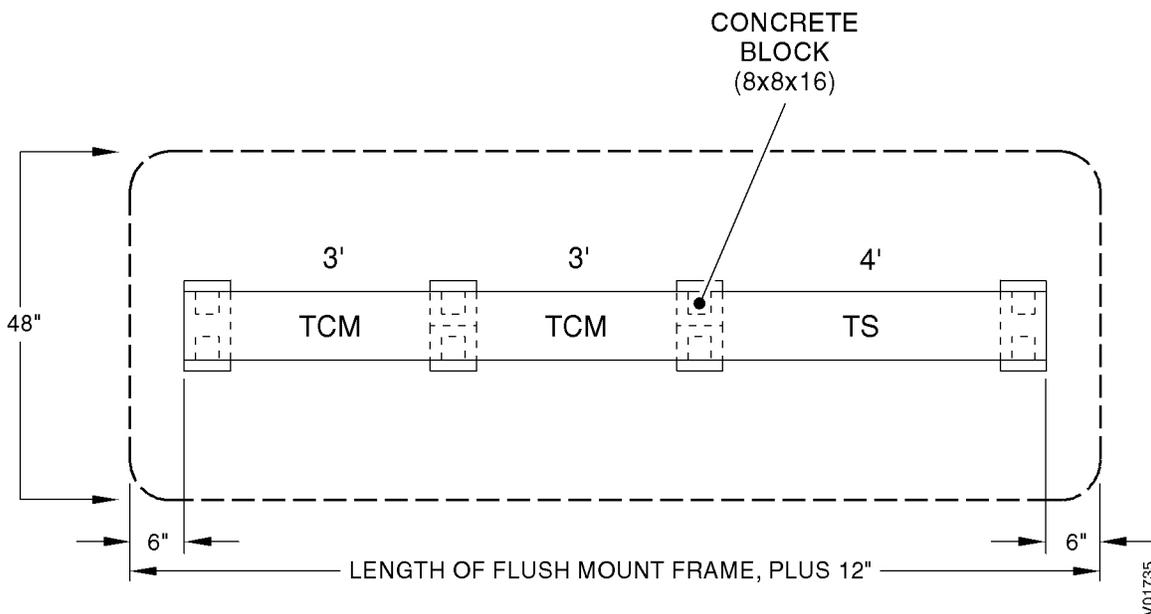
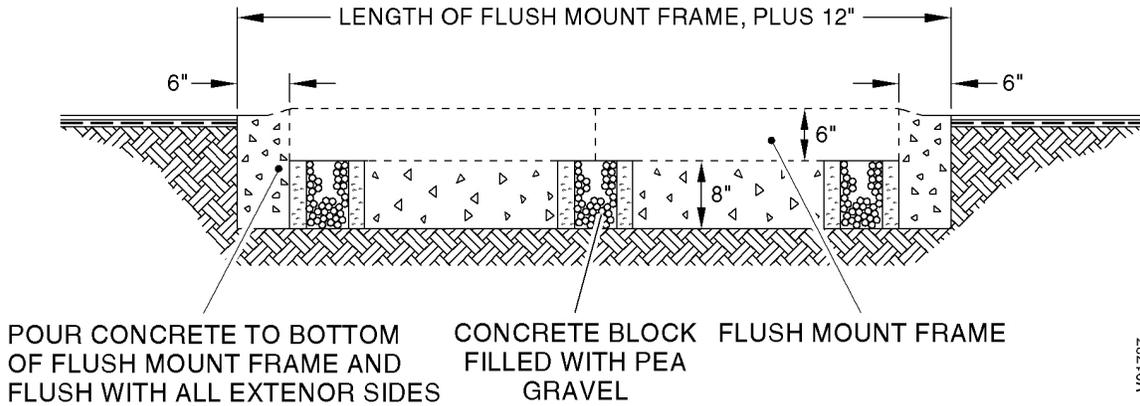

Figure 3-3. Installation CS72-HTC-FM Top View
Figure 3-4. Installation CS72-HTC-FM Horizontal View
6. Excavate a trench approximately 48 inches wide by 13 inches deep. The trench length is dependent on the length of the flush-mount frame utilized in the system. Allow an additional 6 inches at each end of the flush-mount frame (Figure 3-3) for clearance.
7. Place a concrete block (8-x 8-x 16+) into the trench and position one at the end of each TCM and one at the end of the Tunnel Section (Figure 3-3 and Figure 3-4).